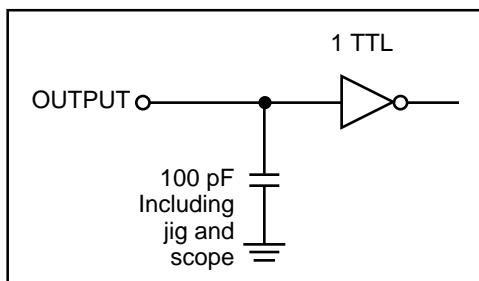

Figure 1
Output Load	See Figures 1 and 2
1. Test conditions assume signal transition times of 5 ns or less, timing reference levels of 1.3V, input pulse levels of 0.4V to 2.2V and output loading specified in Figure 1.
1. Test conditions assume signal transition times of 3 ns or less, timing reference levels of 1.3V, input pulse levels of 0.4V to 2.2V and output loading specified in Figure 1.